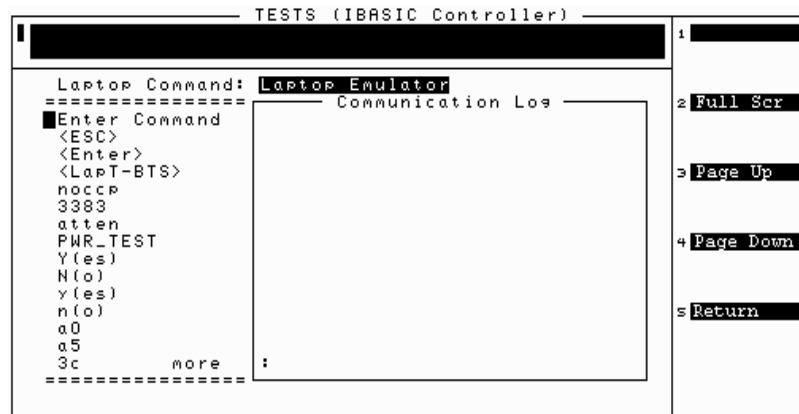

Figure 44 Laptop Emulator Screen
3. Press k1 (Proceed). The laptop emulator screen will be displayed (see figure 44 on page 138).